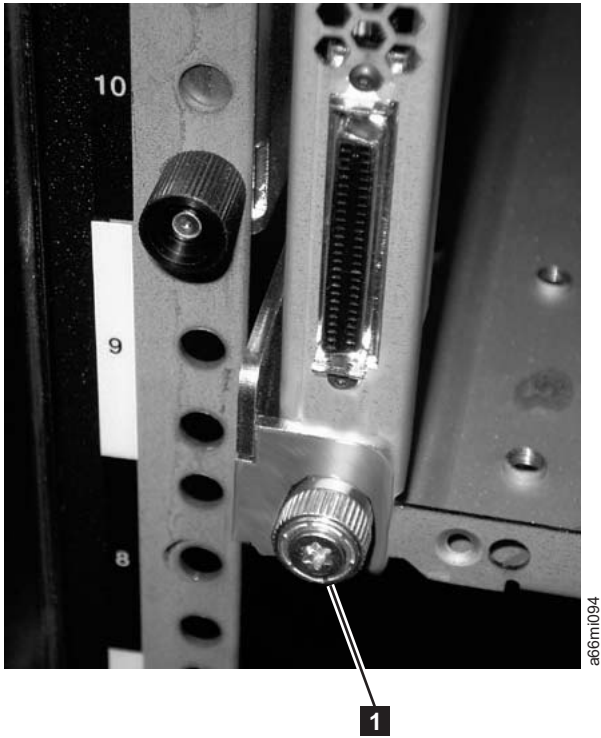

Figure 3-20. Rear flange and thumb screw on rack rail
6. Install and tighten the rear thumb screws (**1** in Figure 3-20 on page 3-22) located on the flange on the rear of each rack mount rail.